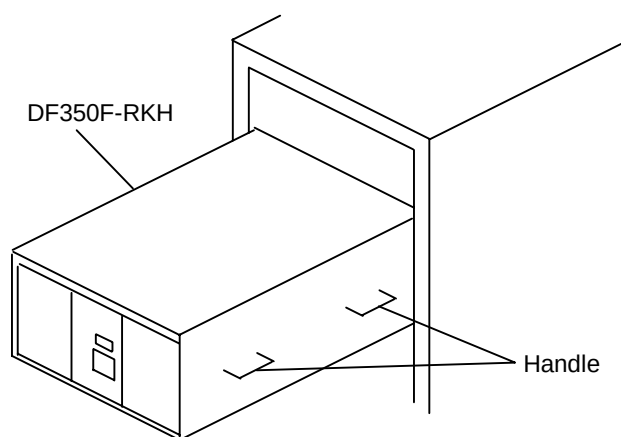

Figure 2.4.5 Installing the Subsystem in the Rack
2.4.5 Installing the subsystem into the rack (See Figure 2.4.5.)